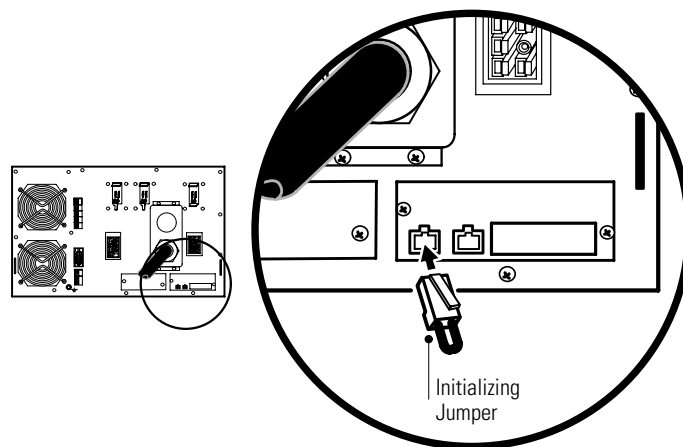

Figure 38. Installing the Initializing Jumper
8. Install the supplied initializing jumper (see Figure 38) into the CAN IN port on the UPS.